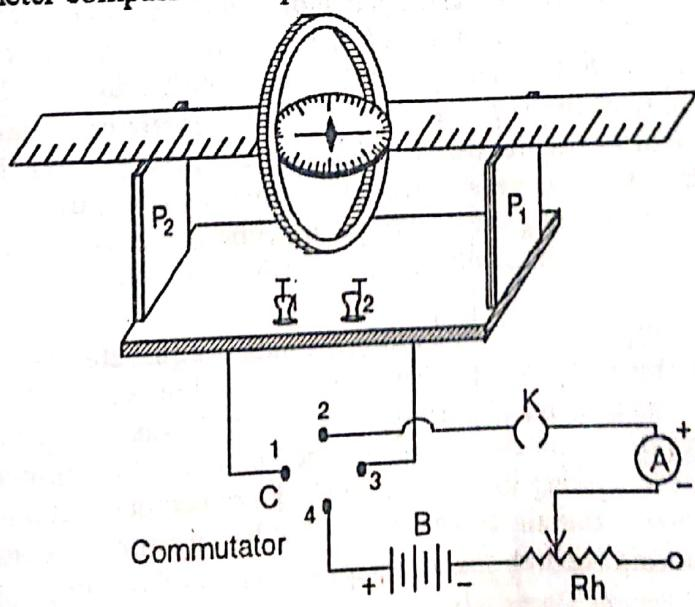

Fig. 9.2
The scheme of connections is clearly depicted in the diagram shown in fig. 9.2. The binding terminals  $T_1$  and  $T_2$  of the tangent galvanometer are connected to the two diagonally opposite fixed terminals (1, 3) of commutator  $C$ . The remaining two movable terminals (2, 4) of commutator are connected to the storage battery  $B$  with a rheostat  $Rh$ , an ammeter  $A$  and key  $K$  in series as shown in figure.
- Clean the ends of the connecting wires with sand paper and make electric connections as explained in fig. 9.2.